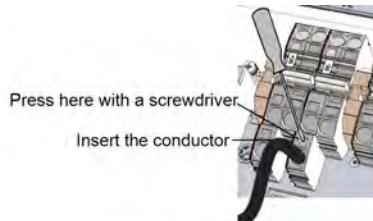

Figure 26: DC Spring-clamp terminals
- c. Insert the wire into the top opening (see *Figure 26*).